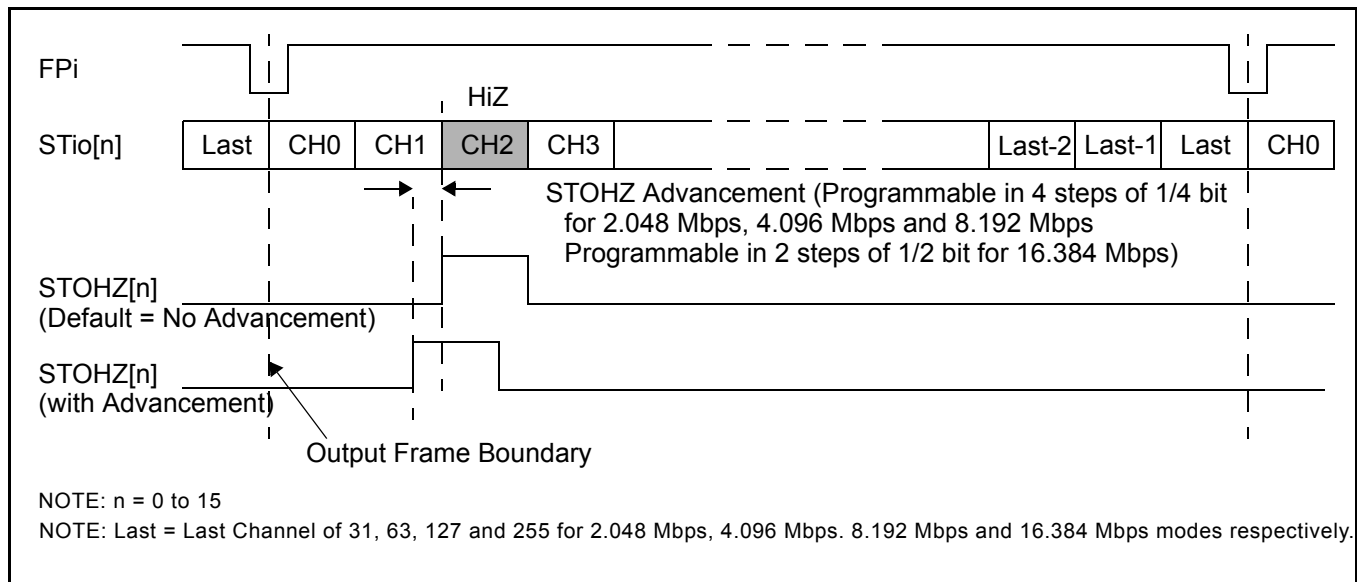

Figure 18 - Channel Switching External High Impedance Control Timing
There are 16 external high impedance control signals, STOHz0 - 15, that are used to control the external drivers for per-channel high impedance operations. Only the first sixteen ST-BUS/GCI-Bus (STio0 - 15) outputs are provided with corresponding STOHz signals. The STOHz outputs deliver the appropriate number of control timeslot channels based on the output stream data rate. Each control timeslot lasts for one channel time. When the ODE pin is high and the OSB (bit 2) of the Control Register (CR) is also high, STOHz0 - 15 are enabled. When the ODE pin, OSB (bit 2) of the Control Register (CR) or the RESET pin is low, STOHz0 - 15 are driven high, together with all the ST-BUS/GCI-Bus outputs being tristated. Under normal operation, the corresponding STOHz outputs of any unused ST-BUS/GCI-Bus channel (high impedance) are driven high. Refer to Figure 18 on page 33.